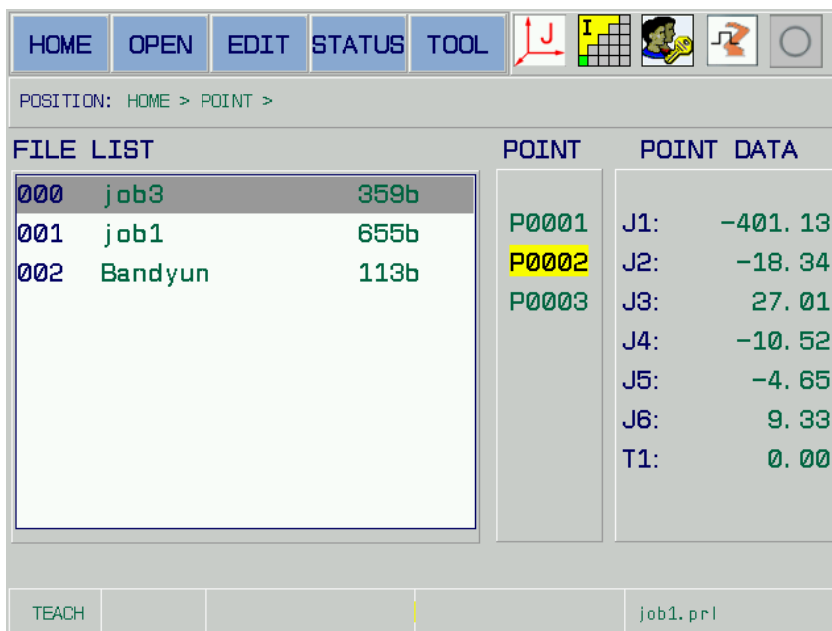

Fig. 7-12
1. Select the file by the up/down direction button, when the teaching point of the file program content is treated as P* by default. The teaching point and position data will not displayed. If compiling the teaching point to the file content, for example, change P* to P1, and then check the teaching point information and position data entering the {POINT}; refer to the Fig. 7-12.